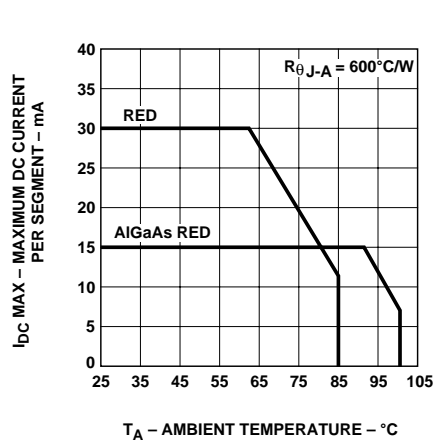

Figure 3. Maximum Allowable DC Current vs. Ambient Temperature. $T_{JMAX} = 100^{\circ}\text{C}$ for Red and $T_{JMAX} = 110^{\circ}\text{C}$ for AlGaAs Red.
4. Derate maximum DC current for Red above $T_A = 62^\circ\text{C}$ at 0.79 mA/°C, and AlGaAs Red above $T_A = 91^\circ\text{C}$ at 0.8 mA/°C. See Figure 3.